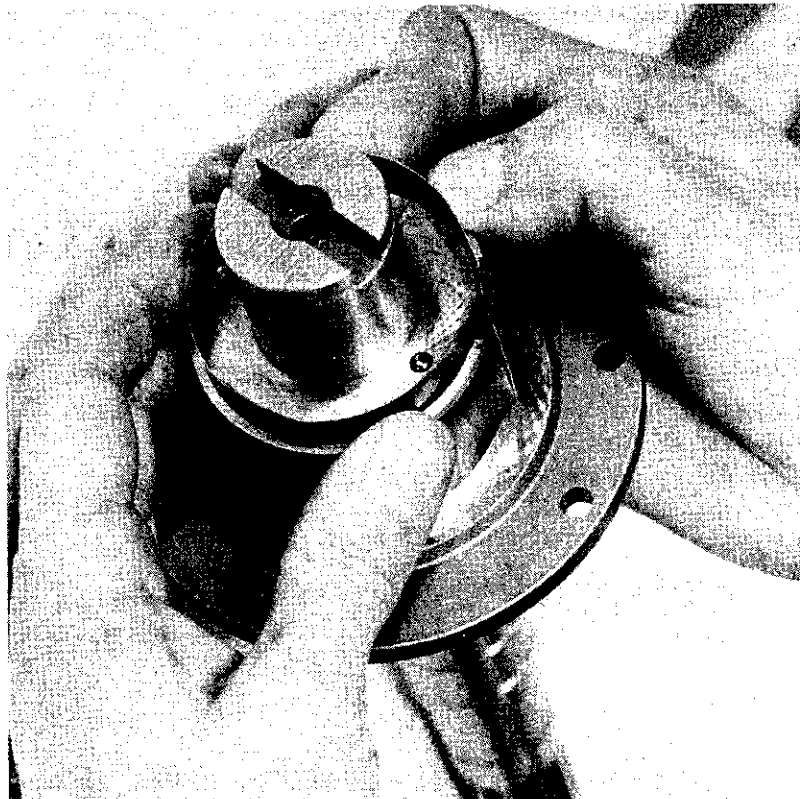

Fig. 9 Piston rings — fitting procedure
6. Where a loading tool is not available use a thin metal strip, long enough to lay along the shaft above the grooves. Expand each ring just sufficient to allow them to be placed in approximate position over the strip. Gently remove the strip and locate the rings in their respective grooves, (See Fig.9).